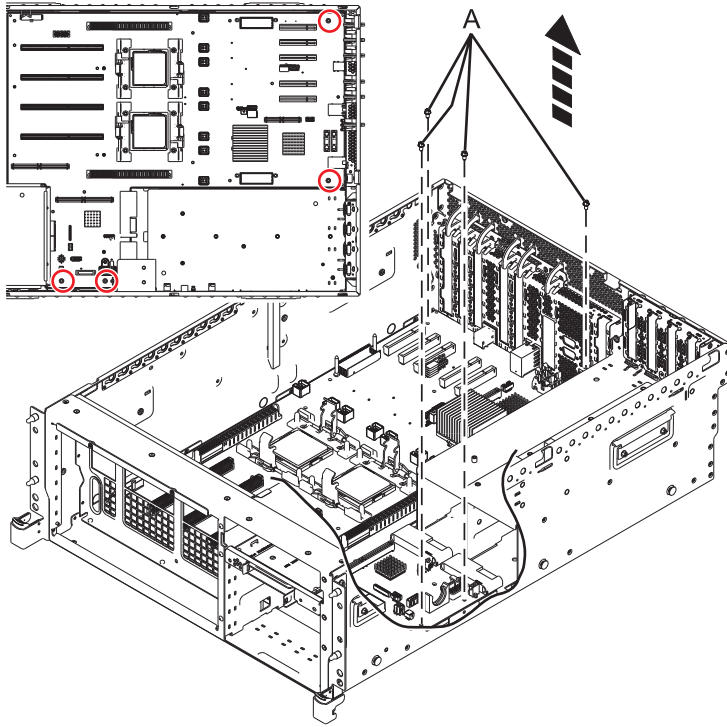

Figure 10. Removing the system backplane from the 8202-E4B or 8205-E6B
- b. Remove the four screws (A). See Figure 10 on page 15.